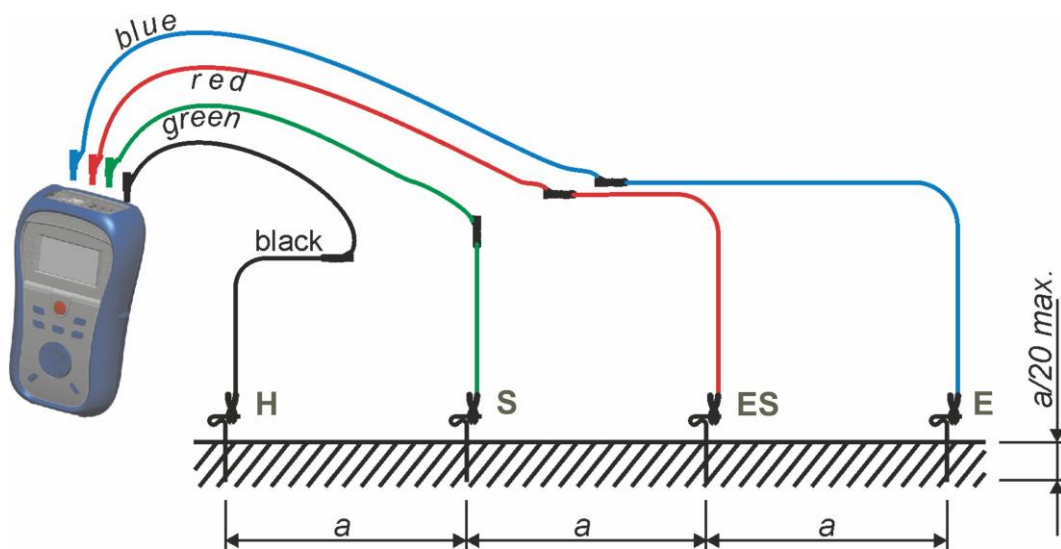

Figure 5.9: Specific earth resistance measurement
- ❑ **Connect** the test accessory to the item to be tested (see figure 5.9).